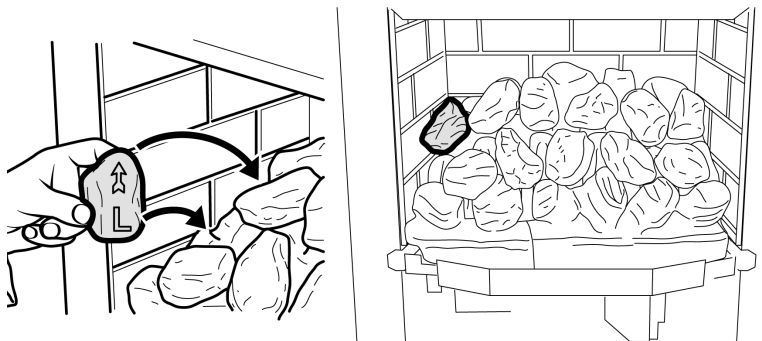

Figure 17 Third row "Coal L"
3. Hold coal 'L' upright with the arrow pointing to the top. Locate coal 'L' as shown in figure 17